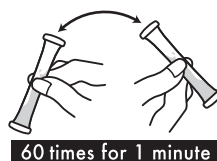

Fig.3
5. Shake the tube 60 times for 1 minute. (Fig.3)